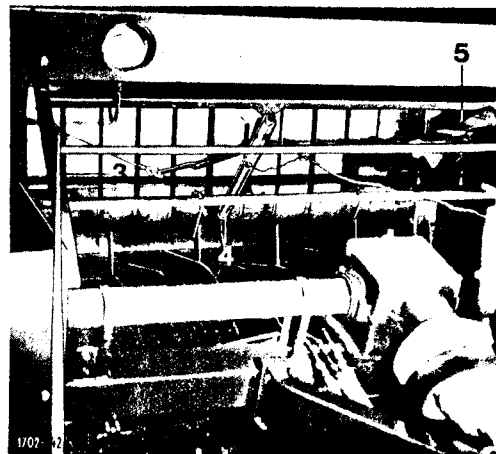

Fig. 14
- 1.2. Pull tying rope 3 (fig. 14) from tractor seat until twine guide tube 4 is roughly centred above the chamber inlet.
- 1.6. Once guide tube 4 has moved close to tripping lever 5 (fig. 14) of cutting device, stop movement of rope 3 and let twine again wrap 2 - 3 times round the bale in one place.